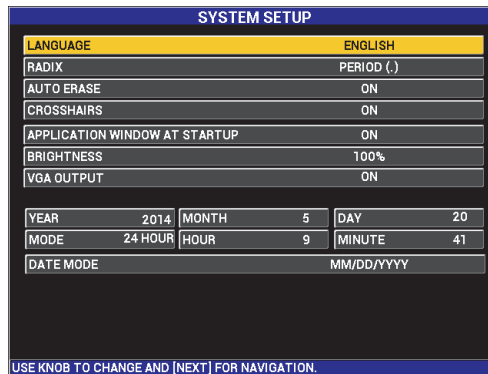

Figure 4-1 The SYSTEM SETUP screen
1. Press the ADV SETUP menu key () twice, and then press the B key to access the **SYSTEM SETUP** screen (see Figure 4-1 on page 72).
- Press the ADV SETUP menu key () twice, and then press the B key to access the **SYSTEM SETUP** screen (see Figure 4-1 on page 72).
3. In the **SYSTEMS SETUP** screen (see Figure 4-1 on page 72), use the FULL NEXT key () to highlight the desired parameter and then use the knob to change its value: